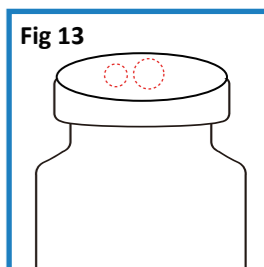

Fig 13
- Please operate according to the clinical standard of drawing medication from the medicine vial. Please make sure to insert the needle into the "penetration area" of the vial stopper (Fig 13). If the needle is inserted into the area beyond the "penetration area", the needle hub may be moved and the syringe may not be used as expected.